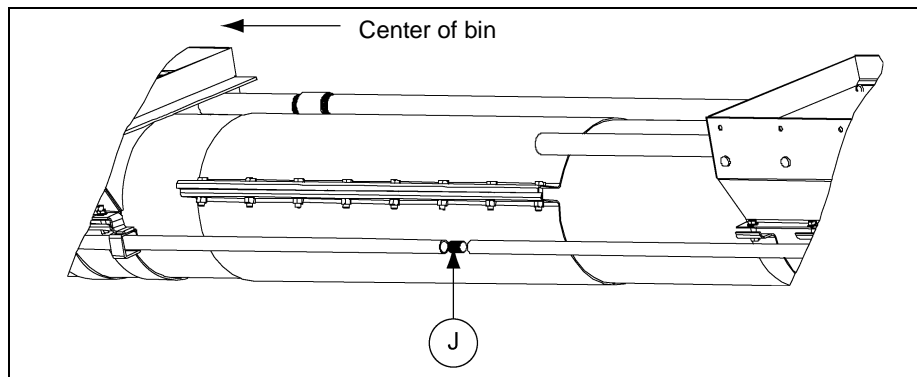

Figure 4Z
- Connect the two (2) clutch control rods by threading the 1/2" internal pipe connector (J) halfway onto the rod attached to the centerwell. Bring the other clutch control rod up to it by running the rod through the clutch control pipe position lock in the bin flange, threaded end first and making sure that the rod is contained by the guides on the intermediate wells. Then thread the rod onto the remaining threads on the coupler. (See Figure 4Z.)